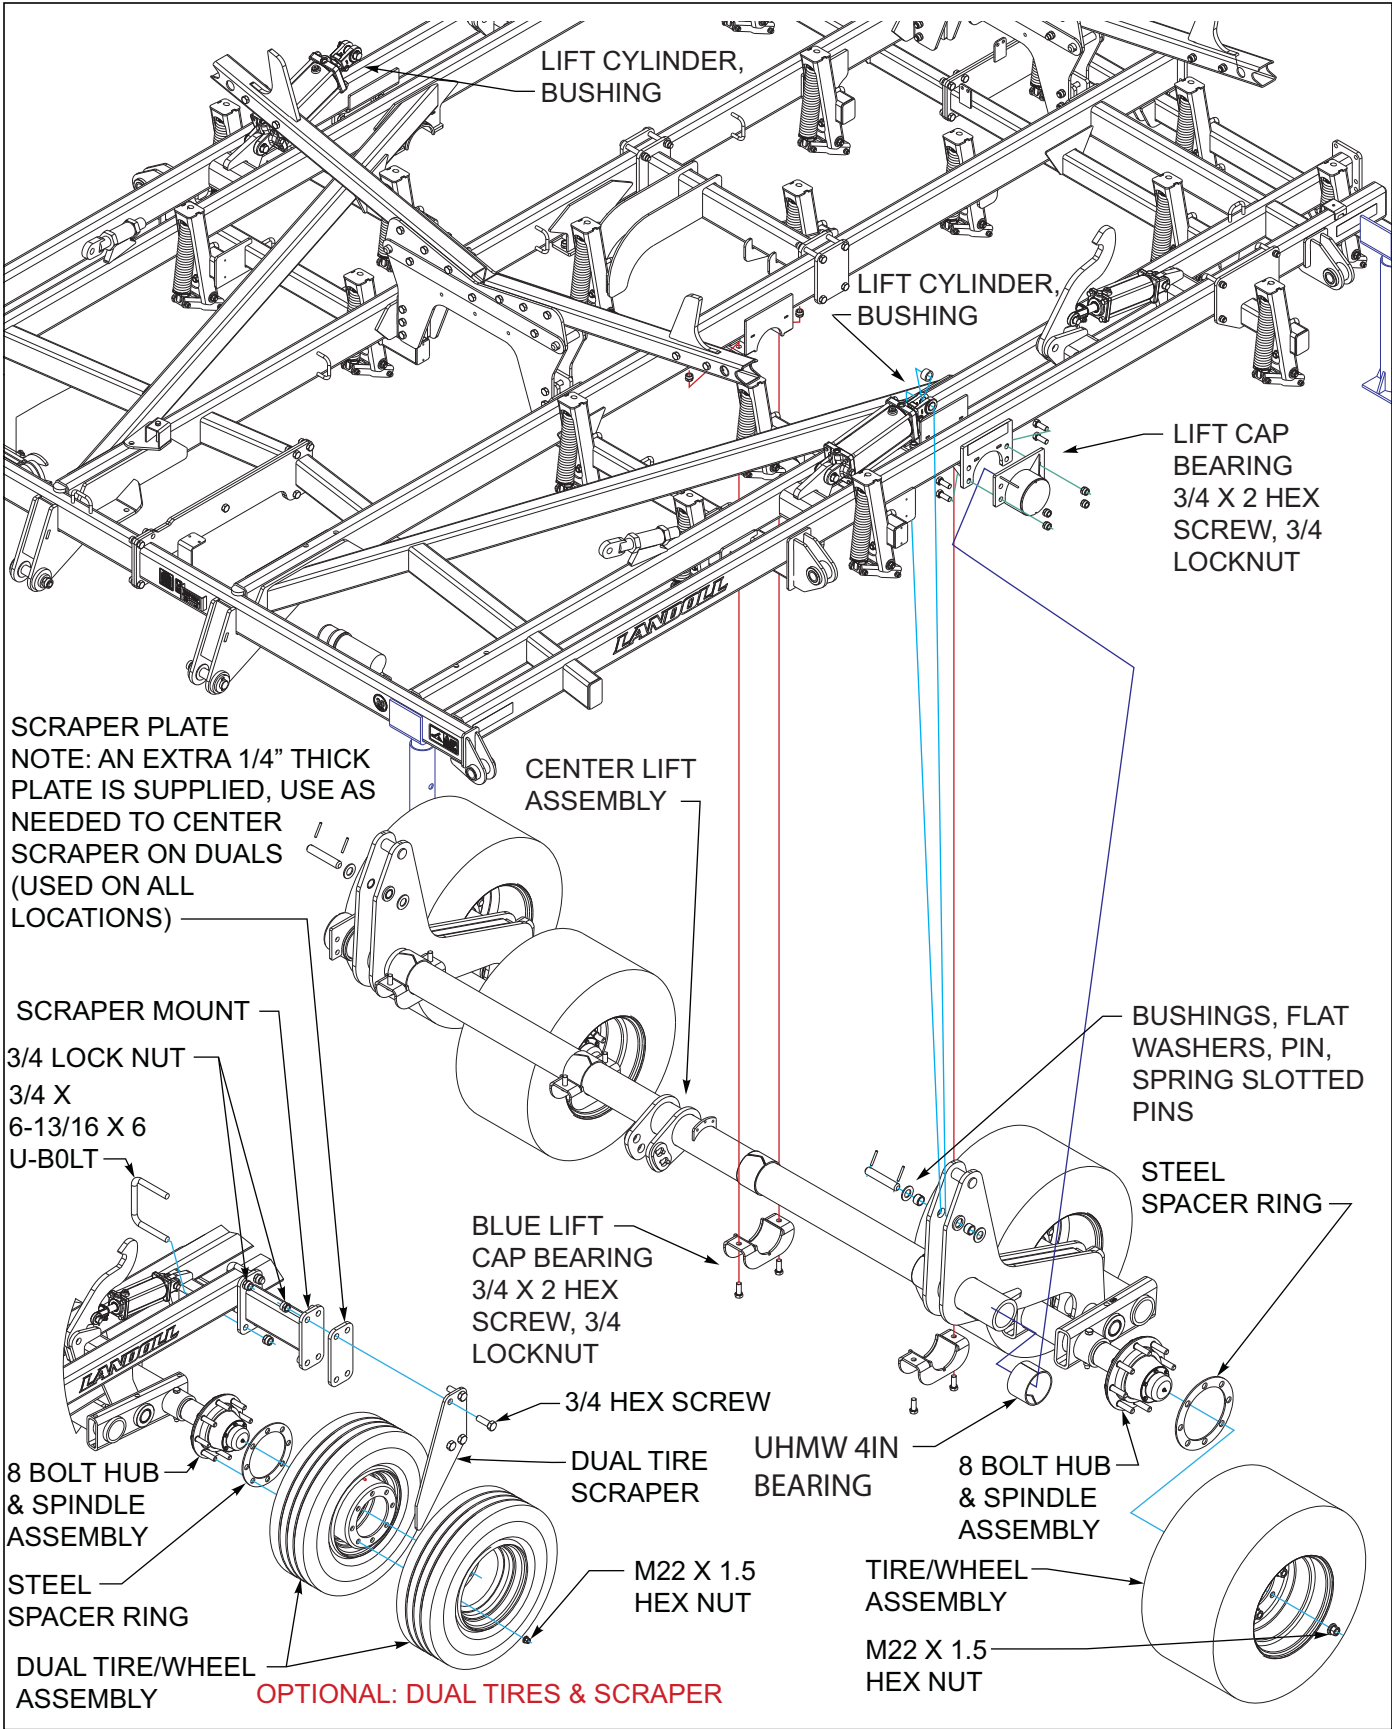
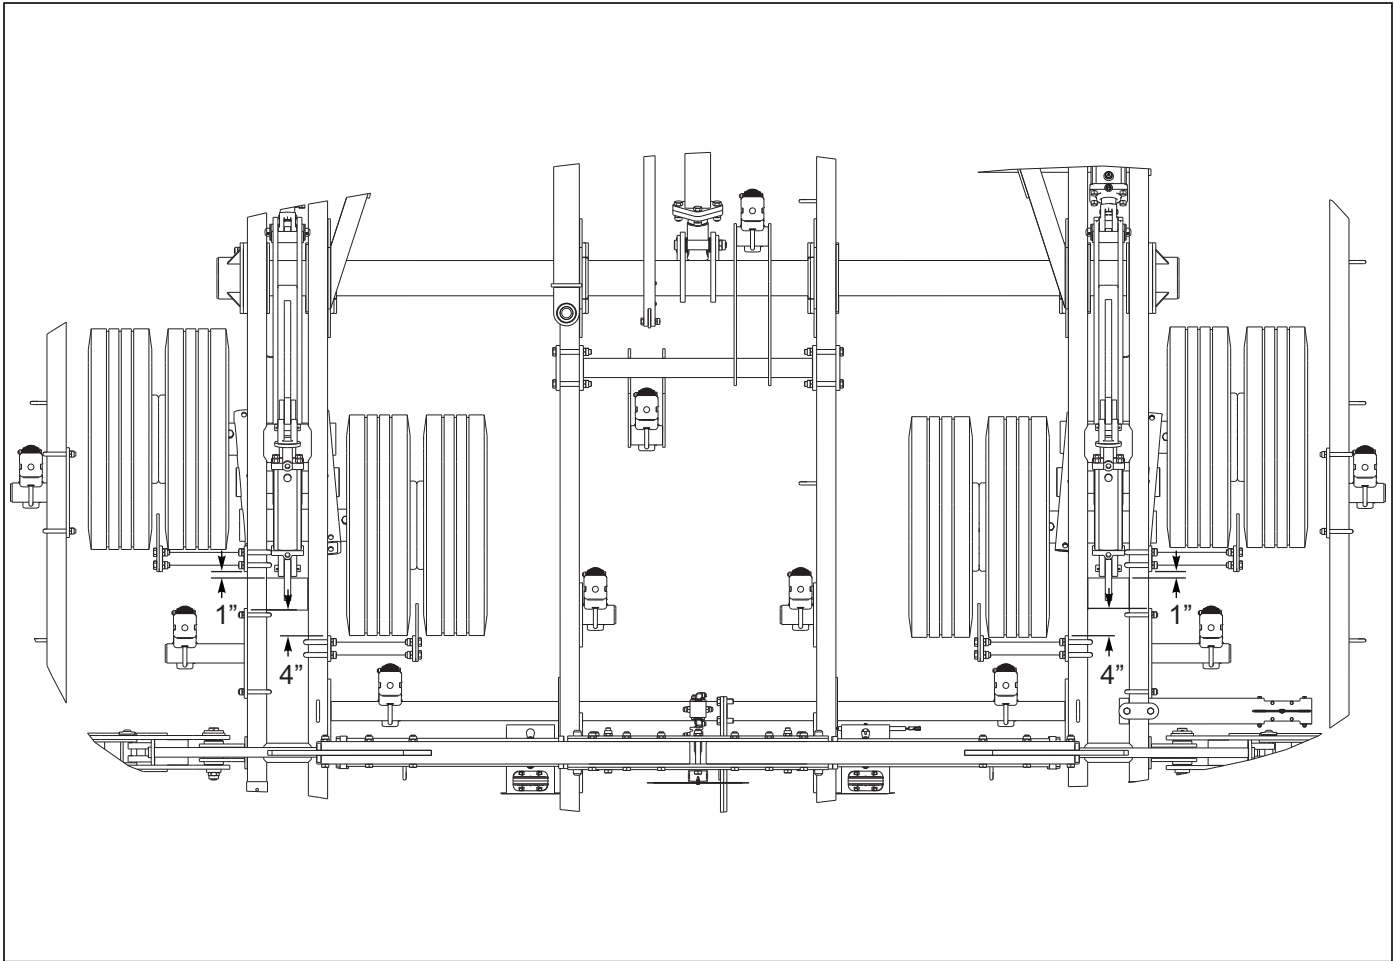

Figure 3-3: Center Frame Assembly Lift
Figure 3-5: Dual Scraper Placement
3. Slide the center lift assembly under the center frame (See Figure 3-3.) Install the four UHMW 4in bearings on the center lift, and two on each end. Slide the lift cap bearing on each end of the center lift. Raise the center lift assembly into the center frame assembly and secure the inner, blue lift cap bearings and outer, lift bearing mounts with 3/4 x 2 GR 5 hex screws and 3/4 locknuts. Make sure the lift is still able to turn after all bolts have been tightened.
6. If using duals install tire scrapers as shown (See Figure 3-3.) (See Figure 3-5) for proper scraper placement.